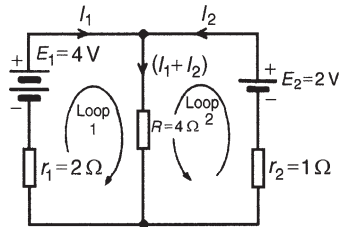

Figure 13.5
1. Use Kirchhoff's current law and label current directions on the original circuit diagram. The directions chosen are arbitrary, but it is usual, as a starting point, to assume that current flows from the positive terminals of the batteries. This is shown in Fig. 13.5 where the three branch currents are expressed in terms of  $I_1$  and  $I_2$  only, since the current through  $R$  is  $(I_1 + I_2)$
2. Divide the circuit into two loops and apply Kirchhoff's voltage law to each. From loop 1 of Fig. 13.5, and moving in a clockwise direction as indicated (the direction chosen does not matter), gives
From loop 2 of Fig. 13.5, and moving in an anti-clockwise direction as indicated (once again, the choice of direction does not matter; it does not have to be in the same direction as that chosen for the first loop), gives:
(i.e.  $I_2$  is flowing in the opposite direction to that shown in Fig. 13.5)